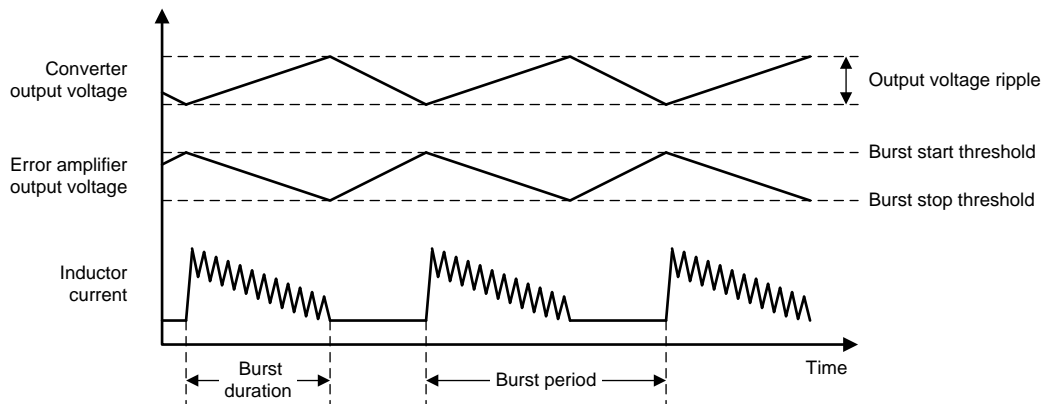

Figure 11. Pulse-Frequency Modulation
- During PFM operation, the device switches in bursts of a few switching cycles, separated by periods when the device does not switch (see Figure 11). PFM operation increases efficiency at low output currents, because when the device does not switch there are no switching losses and most of the internal circuitry is disabled, which reduces quiescent power consumption. A comparator with hysteresis compares the output voltage of the error amplifier to a predefined PFM threshold voltage. When the output voltage of the error amplifier is greater than the burst threshold voltage, the device starts switching. When the output voltage of the error amplifier is less than the burst threshold voltage, the device stops switching. This scheme automatically adjusts the frequency and the duration of the switching bursts to regulate the output voltage. During PFM operation the output voltage ripple can be higher and the transient response not as good as during PWM operation (see Table 1).